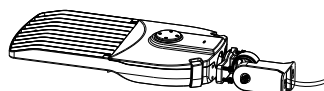

Figure 8
Step 2: Attach the bracket to the fixture. (Figure 8)